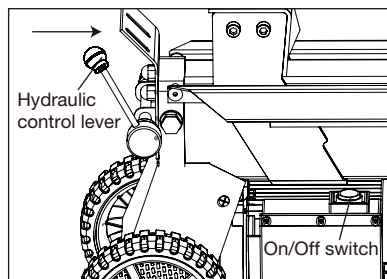

Fig. 4
7. Engage the log pusher by using your left hand to push the hydraulic control lever and your right hand to push the On/Off switch (Fig. 4).